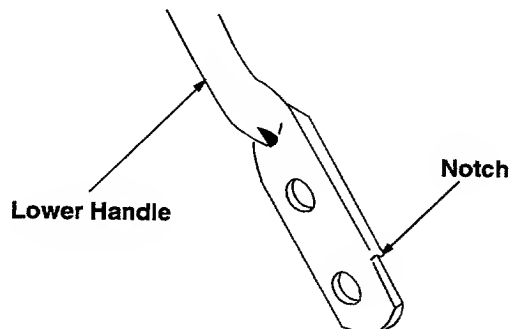

Figure 10
- Turn the lower handle around so the notch on the bottom of the lower handle is facing forward as shown in Figure 10. Reassemble, placing the bottom holes in the handle over the weld pins in the handle mounting bracket.